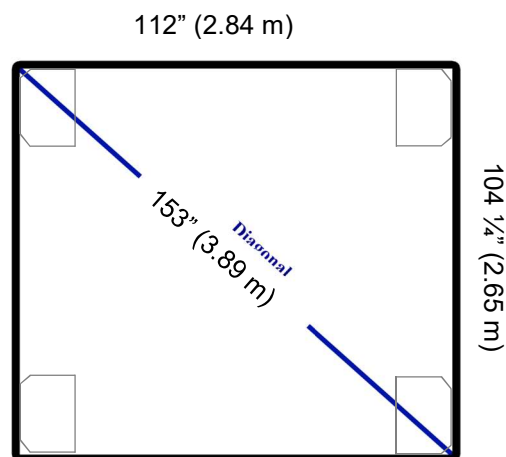

Figure 32
- ♦ The foundation must be levelled with a maximum tolerance of 1" (2.5 cm) over a 153" (3.89 m) diagonal section and 112" (2.84 m) by 104 1/4" (2.65 m) rectangle (Figure 32). The annual variation in levelness for the same diagonal section cannot exceed 1/4" (6 mm).